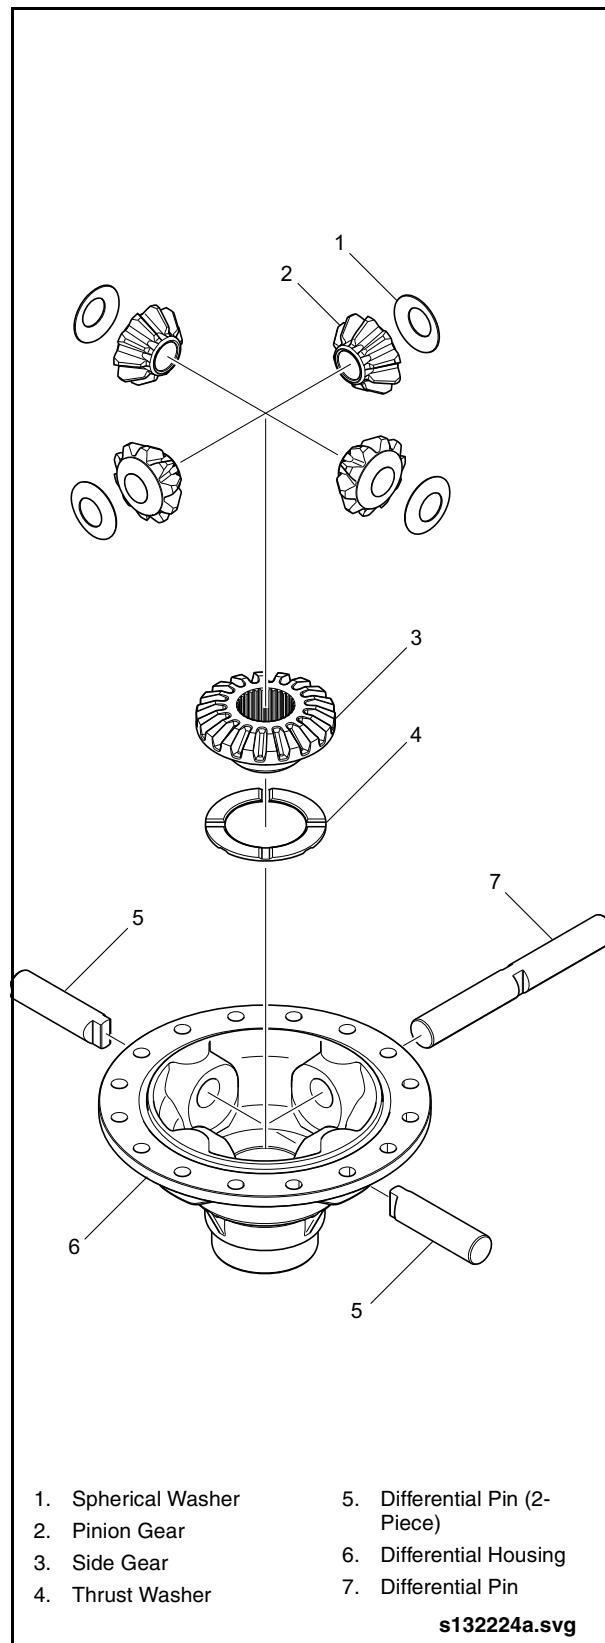

Fig. 2-61: Differential Pinion Gears
2. Pull the differential pins (two pieces) out of the differential housing, then pull out the single piece pin. See "Fig. 2-61: Differential Pinion Gears" on page 54.